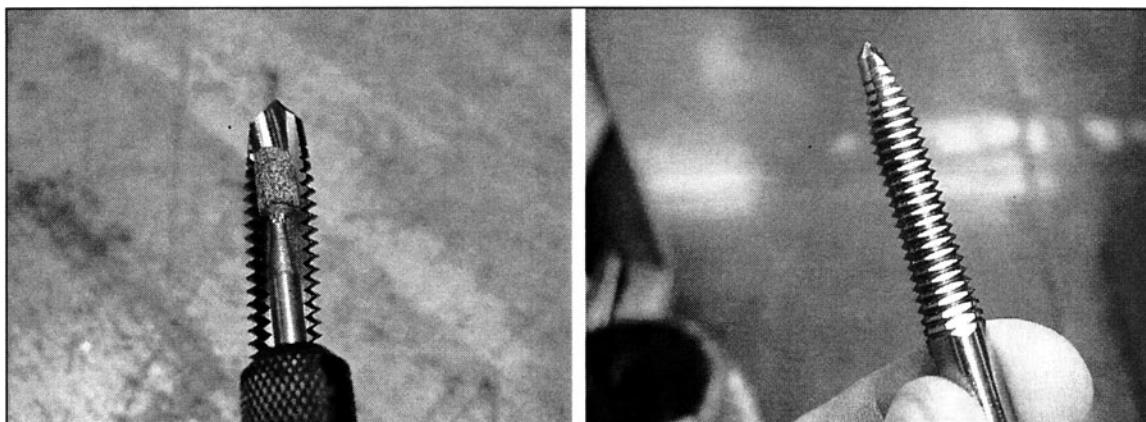

FIGURE 7-21 A tap is sharpened using a Dremel motor and mounted stone.
26. *Regind taps with a Dremel® Tool. (See Fig. 7-21)*